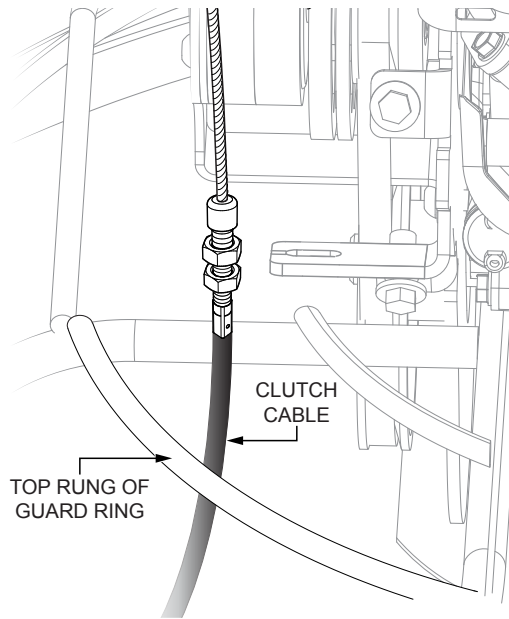

Figure 14. Clutch Cable Routing
5. Route the clutch cable **underneath** the **topmost** rung of the guard ring (Figure 14).